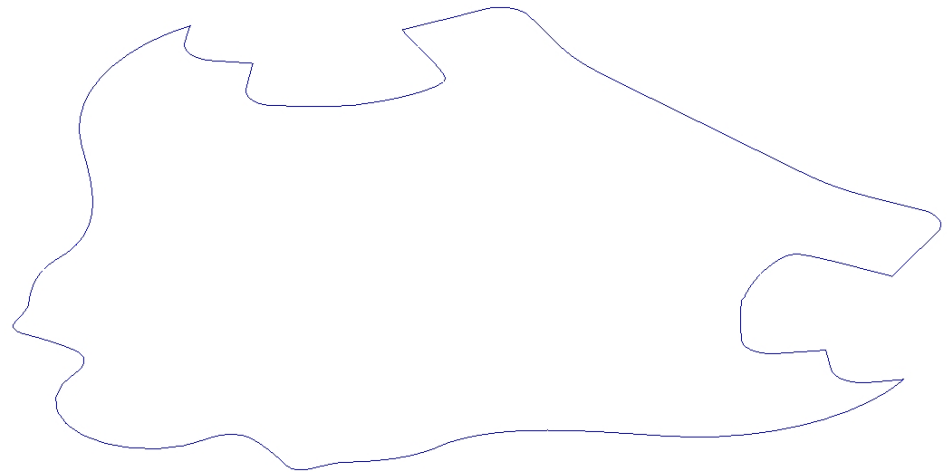

Figure 1.15
- m) Click  to display isometric view of blank outline (as shown in Figure 1.15)